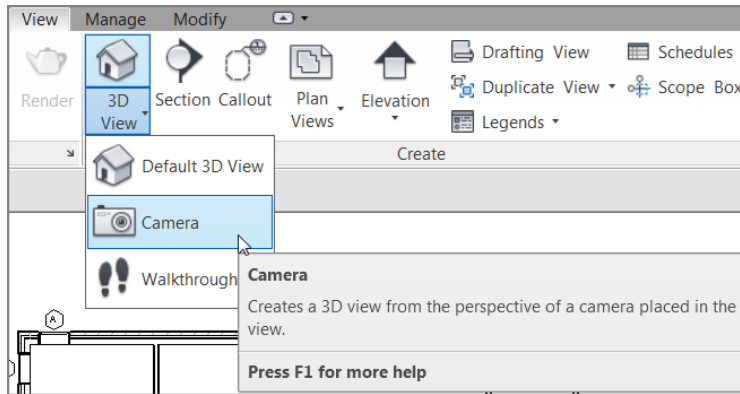

FIGURE 3.69: Adding a camera view
2. On the View tab, click the drop-down arrow in the 3D View button and select Camera, as shown in Figure 3.69. (You can also access this on the Quick Access toolbar.)